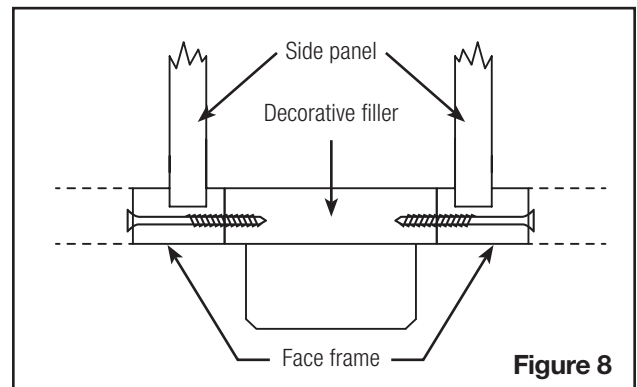

Figure 8
- Secure filler in place with #8 x 2½ in. countersunk screws (Figure 8).